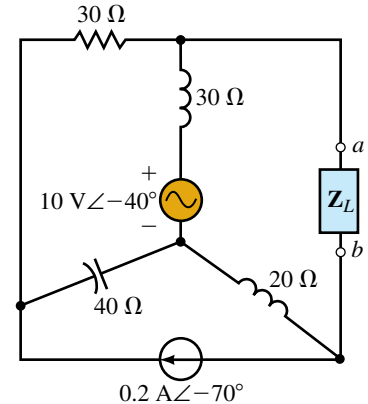

FIGURE 20–86
- 49. **PSpice** Use PSpice to find the Thévenin equivalent circuit external to R_L in the circuit of Figure 20–68. Assume that the circuit operates at a frequency of $\omega = 2000 \text{ rad/s}$.
- 50. **PSpice** Repeat Problem 49 for the circuit of Figure 20–69.
51. **PSpice** Use PSpice to find the Norton equivalent circuit external to R_L in the circuit of Figure 20–70. Assume that the circuit operates at a frequency of $\omega = 5000$ rad/s.